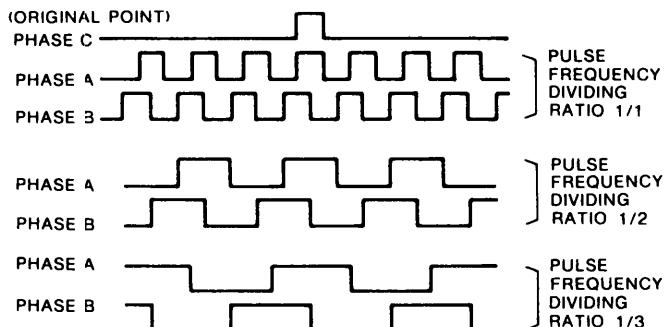

Fig 6.12 Output Waveform of Optical Encoder
The phase relation is the same as in (3), above Set the pulse frequency diving ratio according to Table 6.1 Fig 6.12 shows the optical encoder output waveform under the dividing pulse frequency